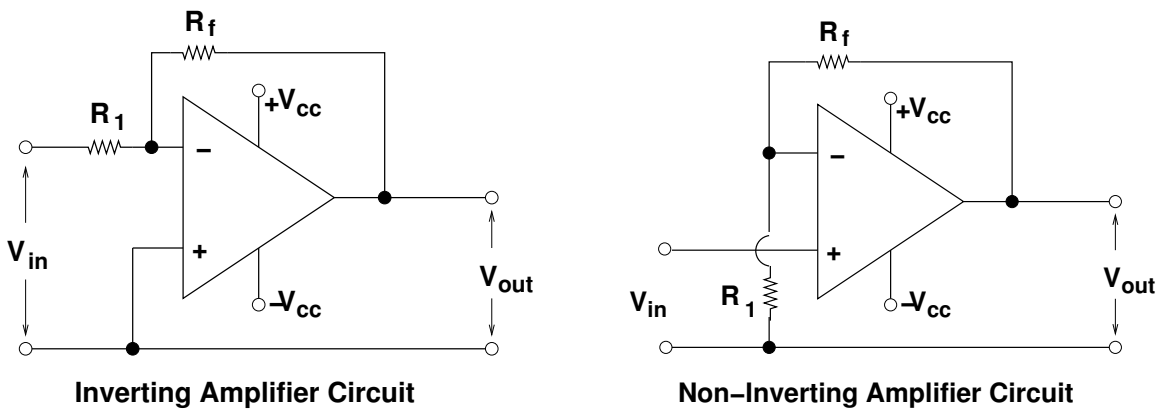

Figure 2: Circuits for inverting and non-inverting amplifier.
Basic circuits for inverting and non-inverting amplifier are schematically shown in Fig. 2. The gain of the inverting amplifier is simply given by
1. Set up the “inverting” configuration in Fig. 2, with $R_1 = 1K$ and $R_f = 10K$ (keep the offset-null switch off).
5. The same configuration can be modified to set up “non-inverting” amplifier. Connect the free end of R_1 (1) to ground and the non-inverting input terminal to ground. Use the same values of R_1, R_f as in the previous setup.